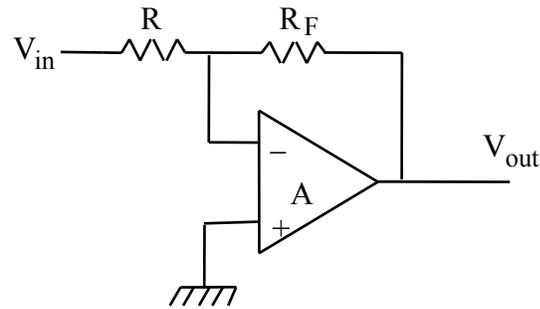

Figure 4.3 Inverting Amplifier
The basic inverting configuration is shown in Figure 4.3. Since the positive input is grounded, the op-amp will do everything it can to keep the negative input at ground as well. In the limit of infinite open loop gain the inverting input of the op-amp is a virtual ground, a circuit node that will stay at ground as long as the circuit is working, even though it is not directly connected to ground. Since the op-amp inputs draw no current, it follows that
4. (2 points) Design an inverting amplifier (Fig. 4.3) with a closed-loop gain somewhere between 10 and 100. Select appropriate values for R and R_F . Choose R_F large enough so that the maximum output current of the op-amp is not exceeded when the output is near the saturation voltage. Predict the bandwidth and the input impedance at the signal input. How would you measure the input impedance in the lab? [The DMM is not going to properly read the input or output impedance when connected to a circuit because of all the other resistors and bias voltages present. Here is a hint: Recall that when the signal generator with a 50 Ω output impedance has a 50 Ω load the signal into the load drops by a factor of two.]